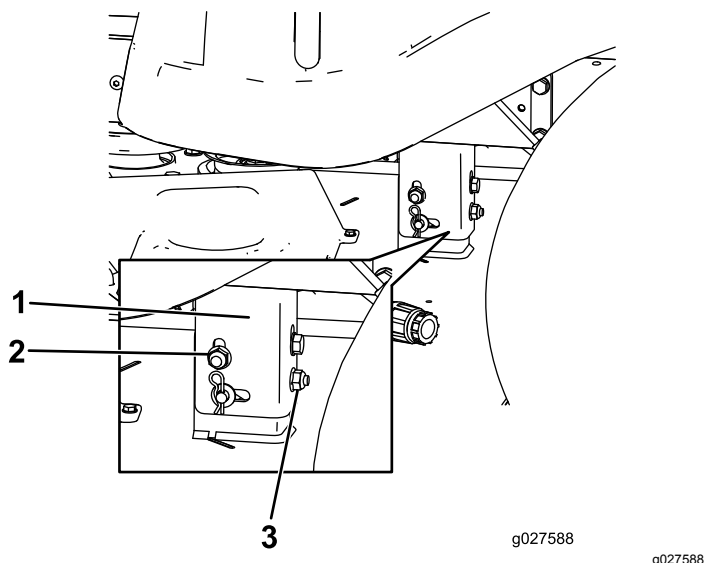

Figure 57
8. Raise or lower the left side of the mower deck by rotating the rear nut. (Figure 57).